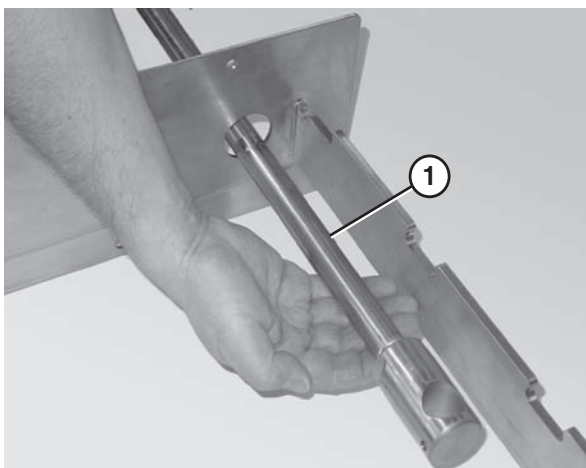

Figure 24
1. Slide the tip up shaft (**Figure 24, item 1**) through the designated slots in the frame.